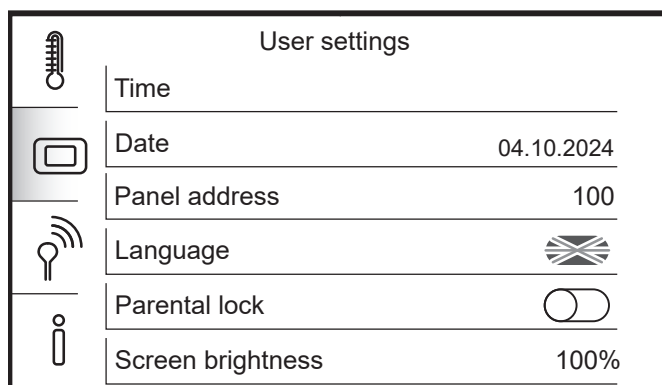

Figure 10-5: User settings menu
2. Tap 'USER SETTINGS'. Refer to Figure 10-5.